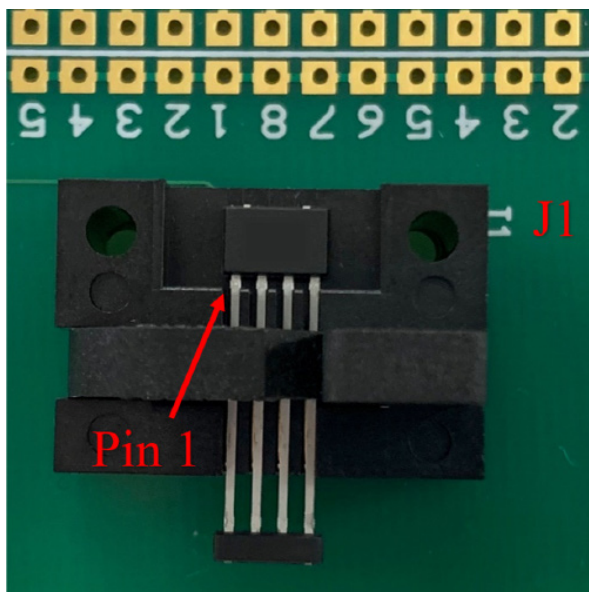

Figure 11: ACS70311 in “J1” socket
- See Figure 11 showing the ACS70311 in “J1” socket.